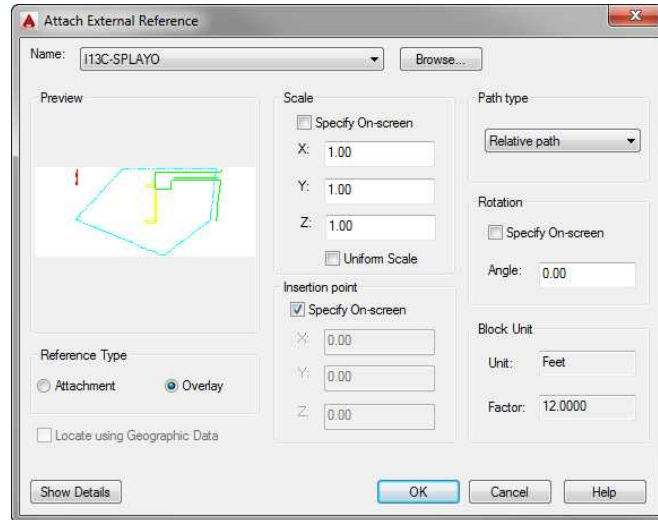

FIGURE 13.14: The Attach External Reference dialog box with I13C-SPLAY0 (M13C-SPLAY0) as the named reference
- Click Open to open the Attach External Reference dialog box, and then click the Show Details button in the bottom-left corner to display the reference paths (see Figure 13.14).
The file being referenced, I13C-SPLAY0.dwg (M13C-SPLAY0.dwg), appears in the Name drop-down list at the top of the dialog box, with the full path of the file’s location at the bottom. The middle of the dialog box contains three options for the insertion process, which are like those in the Insert dialog box that you used for inserting blocks in Chapter 7. Note that only the insertion point is set to be specified on the screen. The Scale and Rotation options should be set to use their default settings. If they aren’t, click the appropriate check boxes so that this dialog box matches Figure 13.14. Continue as follows:
The Attach External Reference dialog box should look like Figure 13.14.